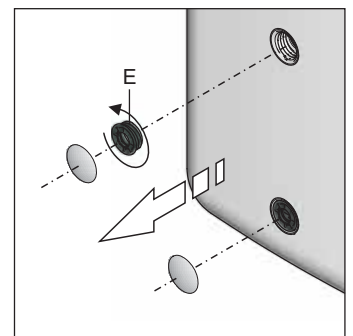

Fig. 5-2 Unscrew threaded piece
- When using the KFE filling connection (Accessory KFE BA):** Remove the covering blind from the handle and unscrew the threaded piece (figure 5-2, item E) from the storage tank container.